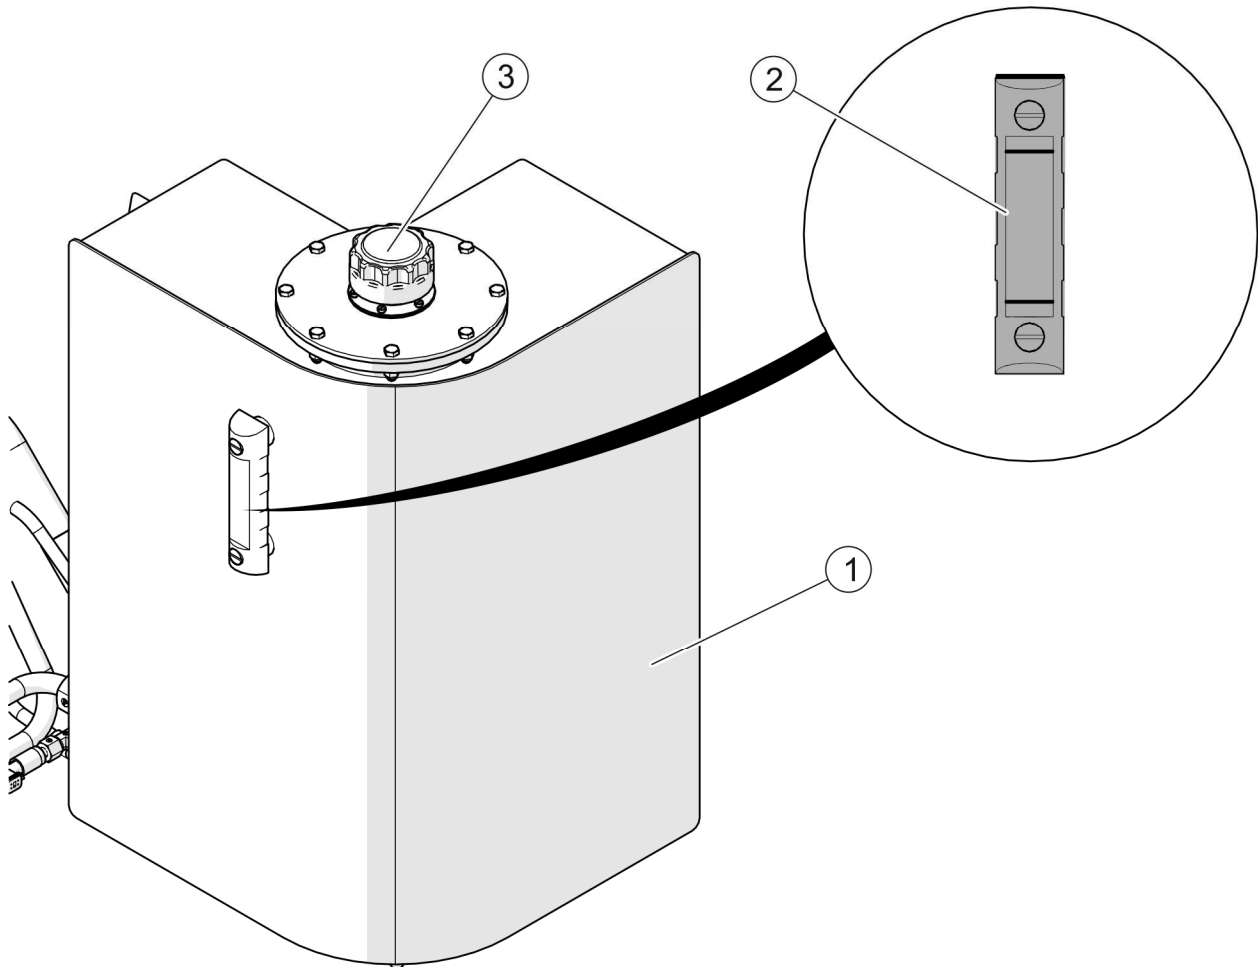

FIGURE 4.1 Checking the hydraulic oil level
- Check hydraulic oil level on the oil level indicator (2) (FIGURE 4.1).
- If oil level is too low, unscrew filler plug (3) and supplement oil.